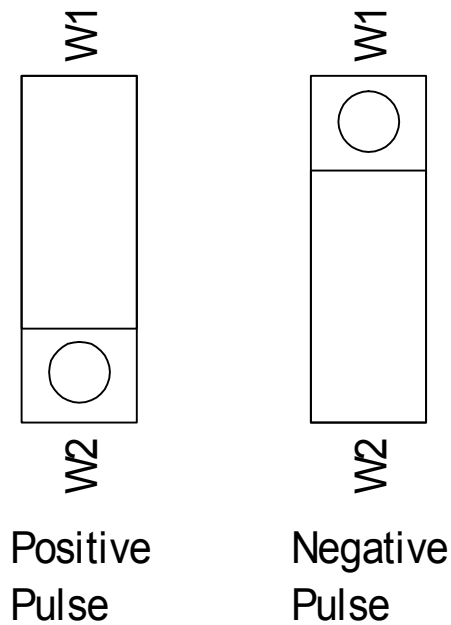

FIG. 4-3 BCD JUMPER SETTINGS/PRINT/NO PRINT
1. Jumper Settings (See Fig. 4-3)